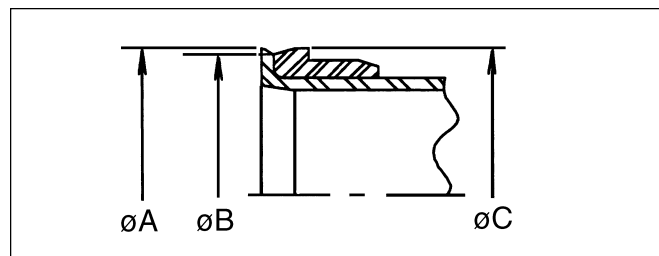

Fig. B4 — Visual Inspection: Diameter A should fall between diameters B and C
3. Inspect the flange diameter using Table B4. The sleeve can also be used for a quick check of the flange dimension as shown in Fig. B4. If the flange is undersized or oversized, the depth of the grub screws, located on the die, can be adjusted by using a 5/16" nut driver and shims. Removing shims will increase the flange diameter — adding will decrease the flange diameter.